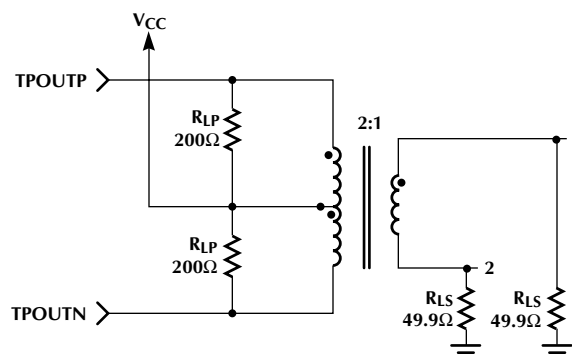

Figure 1. Test Circuit
**Note 2.** Measured using the test circuit shown in Fig. 1, under the following conditions:
**Note 6.** Differential test load is shown in fig. 1 (see note 3).